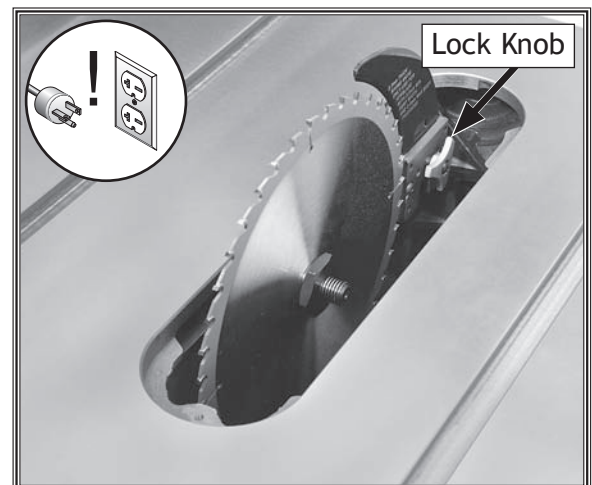

Figure 16. Lock knob location.
4. Tighten the lock (see **Figure 16**), then re-install the table insert.